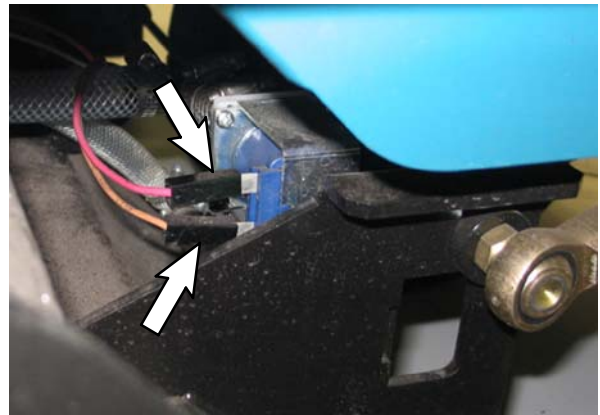
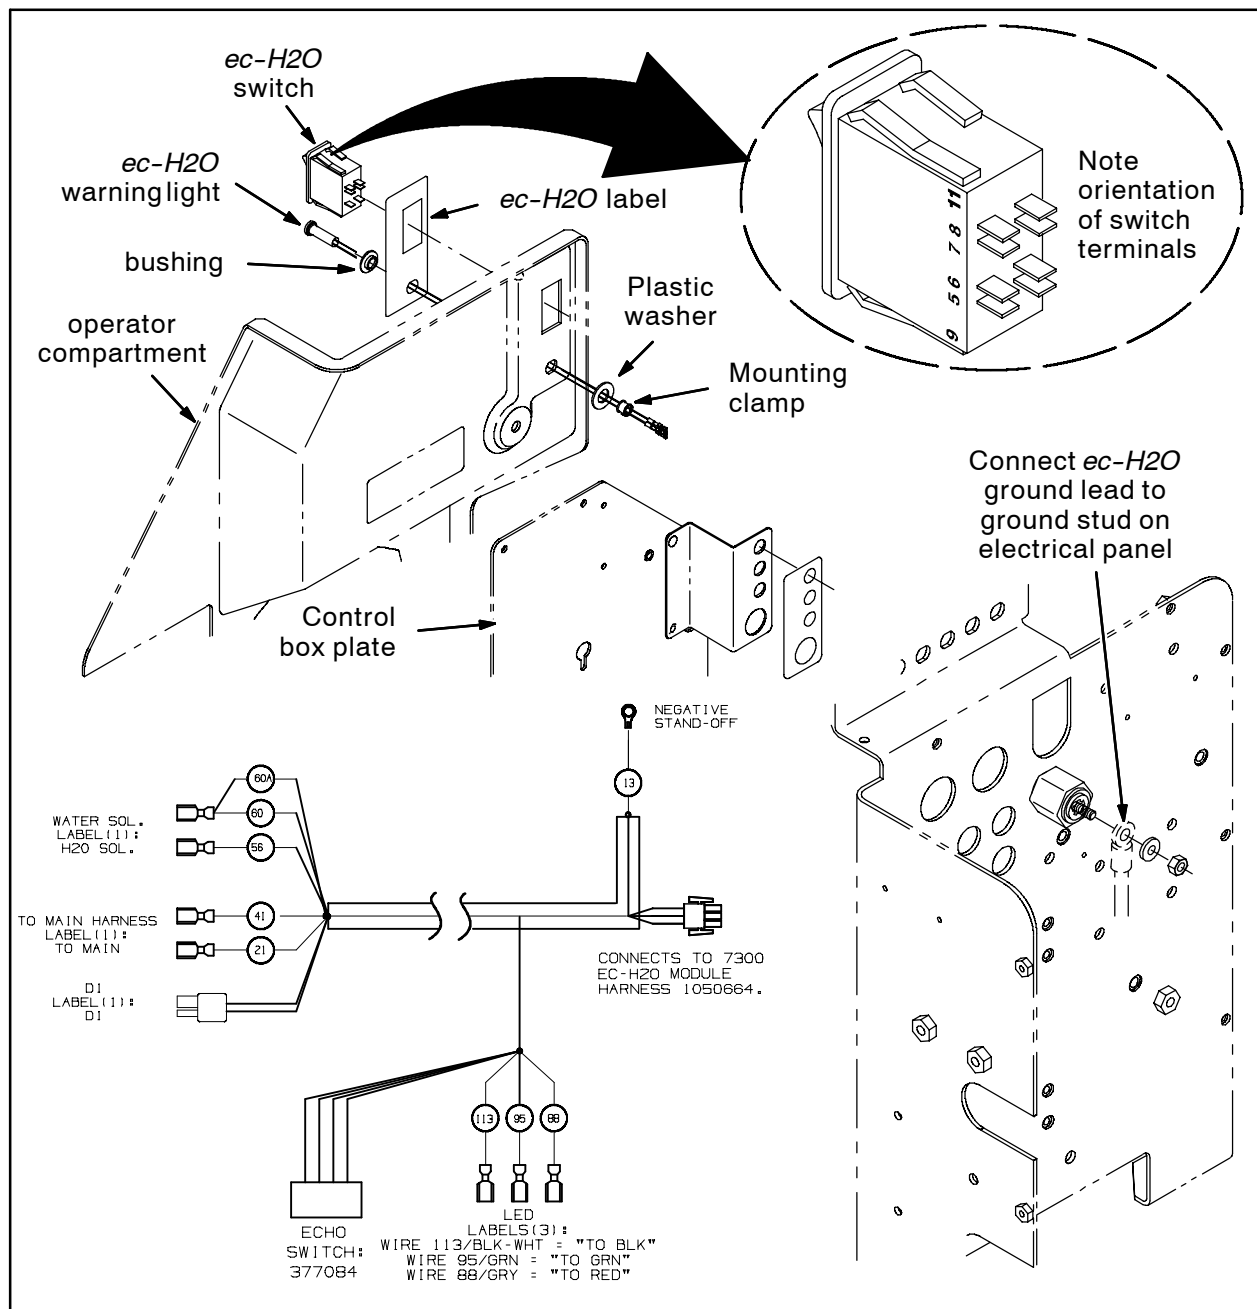

FIG. 15
FIG. 19
16. Disconnect the main wire harness from the water valve attached to the scrub head. Refer to Fig. 15.
17. Connect the two wires previously attached to the water valve to the *ec-H2O* harness. Refer to Fig. 15 and Fig. 19.
18. Connect the *ec-H2O* harness to the water valve. Refer to Fig. 15 and Fig. 19.
21. Install the *ec-H2O* label onto the operator compartment. Refer to Fig. 17, Fig. 18, and Fig. 19.
22. Install the *ec-H2O* switch into the operator compartment. Refer to Fig. 17, Fig. 18, and Fig. 19.
23. Remove the mounting clamp from the *ec-H2O* warning light, slide the bushing onto the light, install the light into the operator compartment, and slide the plastic washer onto the light. Reinstall the mounting clamp to secure the light into place. Refer to Fig. 19.
24. Route the end of the *ec-H2O* harness with the connector for the switch up behind the area of the operator compartment where the light and switch were installed in the previous steps. Refer to Fig. 19.
25. Connect the *ec-H2O* harness to the light. Refer to Fig. 19.
26. Connect the *ec-H2O* harness to the switch. Refer to Fig. 19.
27. Connect the ground lead of the *ec-H2O* harness onto the ground stud in the control box plate. Refer to Fig. 19.